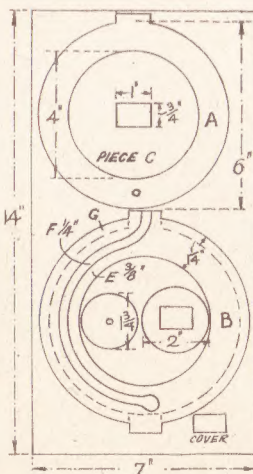
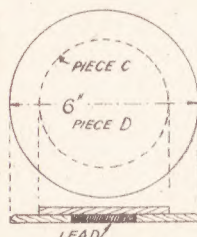

Fig. 1—Detail of parts
Fig. 2—Base section
A study of the illustrations before a start is made on the work will be sufficient to make the method clear. Two circles of  $\frac{1}{4}$  in. wood are wanted as (A), in Fig. 1, the central inner disc (C) of one when cut round and removed will answer for the upper layer of the base, see Fig. 2, which gives a cross section of the base made up of the two pieces.
The larger piece as (B) on the panel in Fig. 1 is  $6\frac{1}{2}$  ins. diameter, with a disc 4 ins. diameter cut from the middle in a similar manner to (A). From this latter piece two smaller discs are cut and glued to the frame. The disc shown 2 ins. diameter will be glued at the top of frame (B), and over the tenon, and the smaller disc,  $1\frac{1}{2}$  ins. diameter will be screwed on top of this disc with a hole in the middle for the flex to protrude, and follow up to the lamp holder.